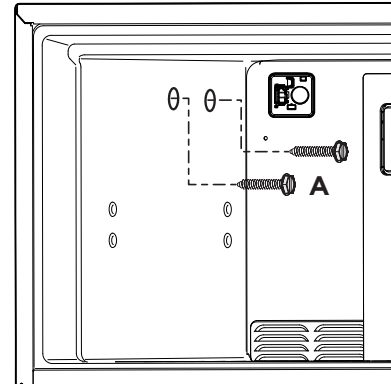

Figure 4
5. Place two, long, ice maker mounting screws (A) into freezer wall where plugs were removed in Step 3. Turn each screw clockwise until 1/2" remains out. See Figure 4.